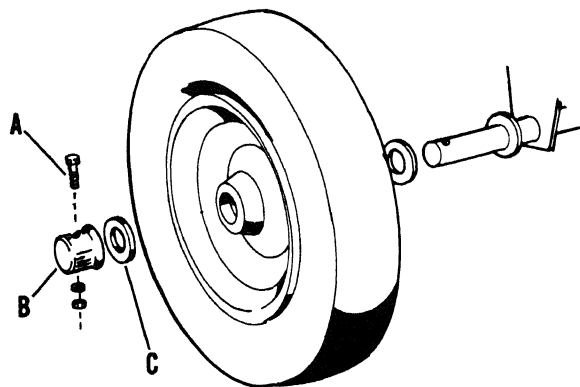

FIGURE 8
4. Wheels (Fig. 8)
Reference for Fig. 8